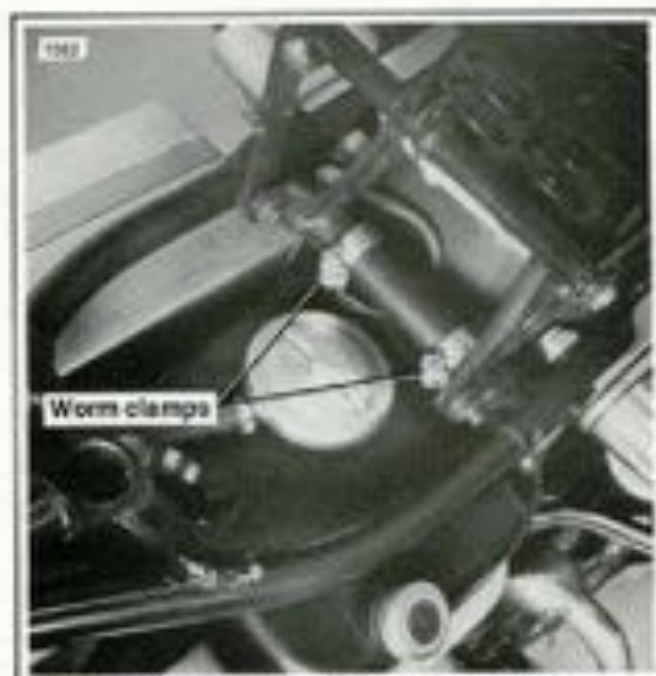

Figure 2-103. Comfort Flex Seat Mounting —
2. 1978 1/2-1980 models see Figure 2-103. Remove the two worm clamps that secure the suspension assembly to the frame cross tube.
2. 1978 1/2-1980 models see Figure 2-103. Fasten the